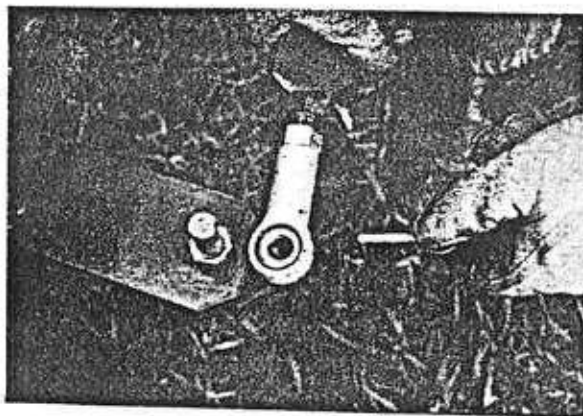

FIGURE 4
1. Remove nuts from the flange bolts on each wheel. Steering arms will need to be disconnected from the front wheels. Figure 4